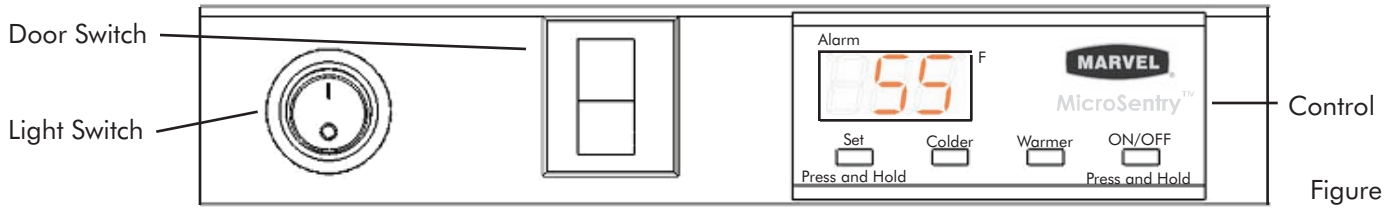

Figure 3
To start your appliance, plug it into a power supply. Push and hold the "ON/OFF" button located on the display panel for three (3) seconds (see Figure 3).